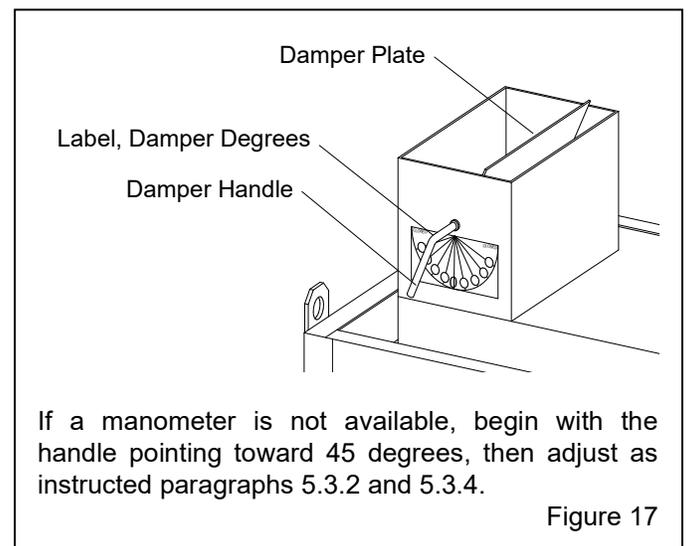

Figure 17
5.3 Reclaimer Static Pressure (exhaust damper) Figure 17
5.3.2 Adjust static pressure by opening or closing the exhaust damper located on the top of the power module, as shown in Figure 17. The damper plate lines up with the handle. When the handle is vertical, the damper is fully open; when the handle is horizontal, the damper is fully closed.